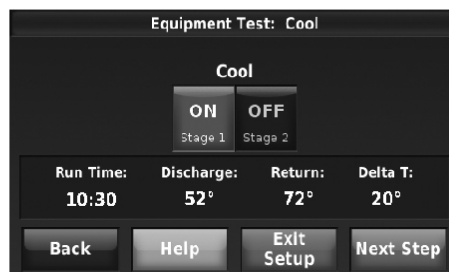

Fig. 17.
2. For each stage you test, wait until Delta T begins to stabilize, then turn on the next stage (if present). See Fig. 17 for an example.
4. When setting the run time, select a setting based on when Delta T began to stabilize during the equipment test. In the example shown in Fig. 17 and 19, Delta T began to stabilize in about 10-11 minutes.